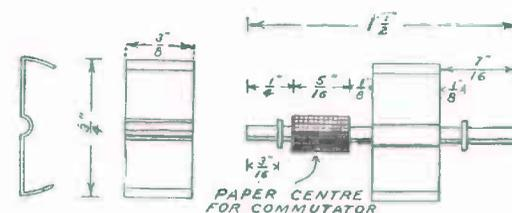
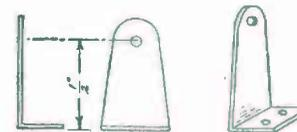

FIG. 243. — Details of the Armature of the Simplex Motor.
FIG. 247. — The Bearings.
shown in Figure 243. The small bend in the center is most easily made by bending the strip over a knitting-needle and then bending it back to the required extent.
**The Bearings** are shown in detail in Figure 247. They are easily made by cutting from sheet-tin. Two small washers, serving as collars, should be soldered to the shaft as shown in Figure 243.